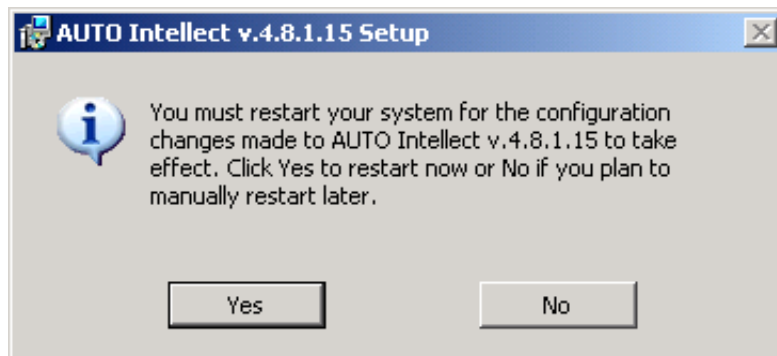

Fig. 6.3-7 Auto Intellect v.4.8.1.15 installation dialog box
Step 8. As a result a dialog box which warns that you must restart your system for the configuration changes to take effect. To restart your system automatically click Yes (see Fig. 6.3-7).